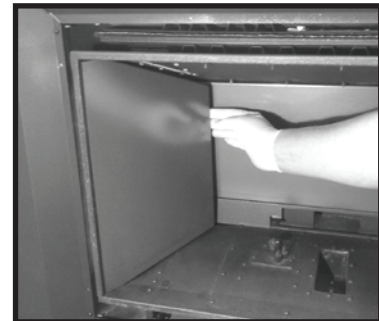

Figure 63: Side Panel
2. Insert first side panel by inserting the front edge of the panel into the lip at the front of the firebox. Then slide the back of the panel until it reaches the firebox side wall. See Figure 63.